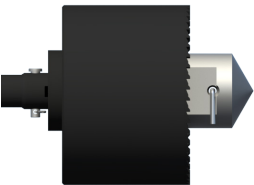

FIGURE 30
2.7.1) Insert the centering tool into the pilot bit hole, align the through-hole with the saw mandrel through-hole, and lock it in place with a cotter pin and clip (see Figure 30).